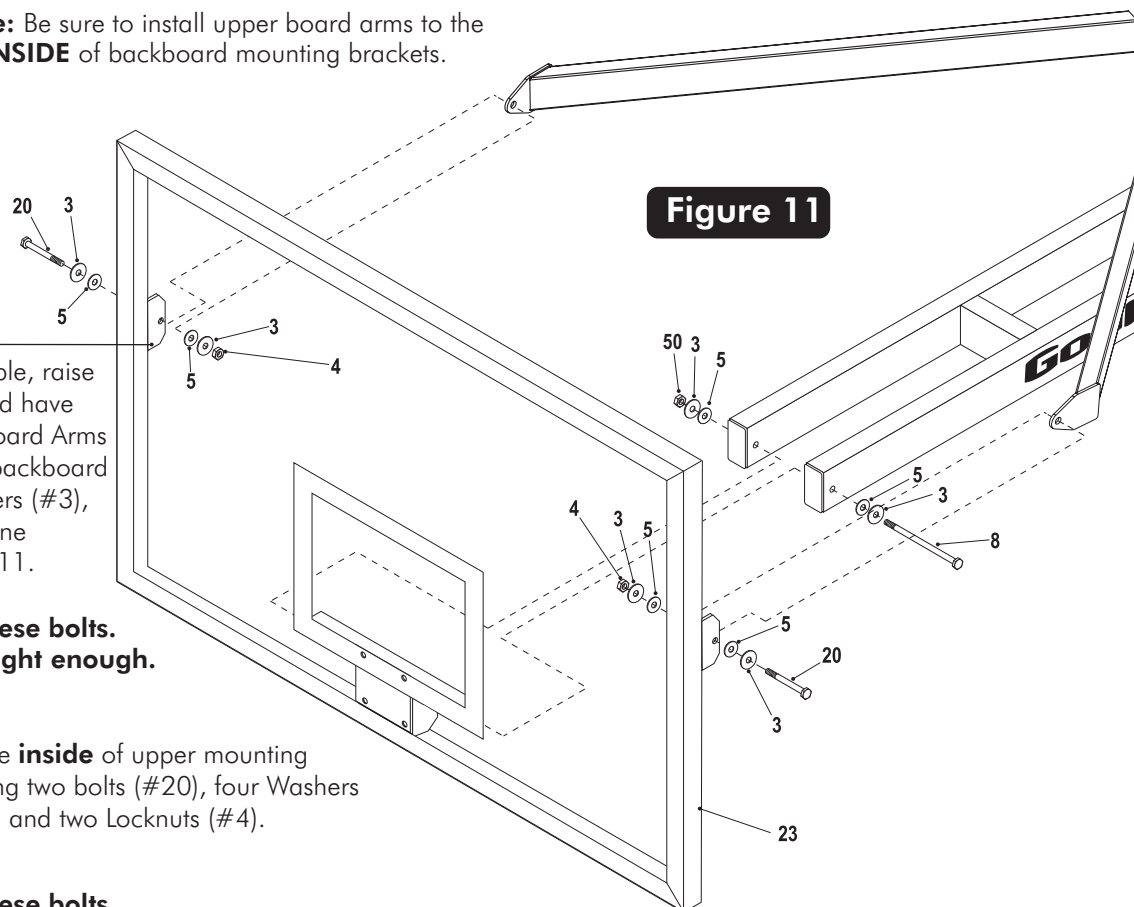

Figure 11
16. With at least four capable people, raise the backboard assembly up and have the fifth person attach Lower Board Arms to the Rim Support (#21) on backboard using one bolt (#8), two washers (#3), two Plastic washers (#5) and one thin locknut (#50). See Figure 11.
17. Attach Upper Board Arms to the **inside** of upper mounting brackets on the backboard using two bolts (#20), four Washers (#3), four Plastic Washers (#5) and two Locknuts (#4). See Figure 11 and Detail A2.